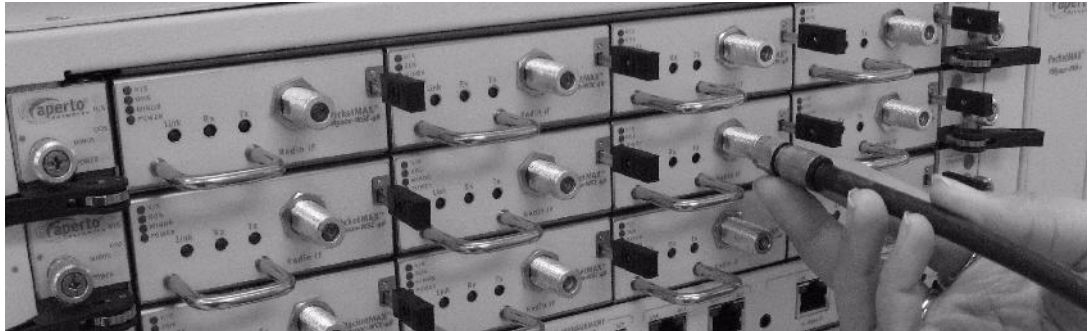

Figure 3-7 Connecting IF port cable
- A. On any of the WSC cards (WSC-48 shown in the picture below) in QWAD, connect one end of the outdoor coax cable (IF port cable) to the WSC card (See Figure 3-7) and the other end to the base station radio (As demonstrated in Section 4.3 in Chapter 4).